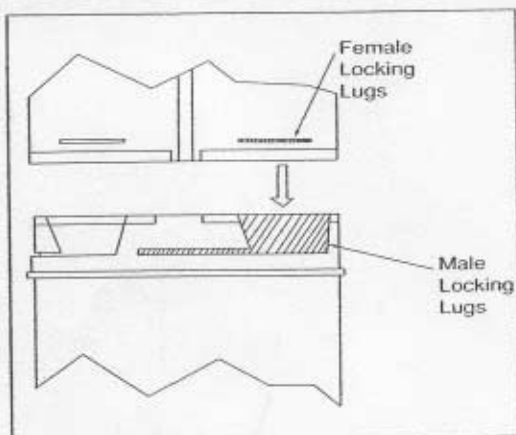

Figure 6
(1) Four indentations, located on the female ends of pipes and fittings, are designed to slide straight onto the male ends of adjacent pipes and fittings, by orienting the four pipe indentations so they match and slide into the four entry slots on the male ends. (Figure 6.) Push the pipe sections completely together, then twist-lock one section clockwise approximately one-quarter turn, until the two sections are fully locked. The female locking lugs will not be visible from the outside, on the Black Pipe or fittings. They may be located by examining the inside of the female ends.
- (1) Four indentations, located on the female ends of pipes and fittings, are designed to slide straight onto the male ends of adjacent pipes and fittings, by orienting the four pipe indentations so they match and slide into the four entry slots on the male ends. (See Figure 6 on page 12.) Push the pipe sections completely together, then twist-lock one section clockwise approximately one-quarter turn, until the two sections are fully locked. The female locking lugs will not be visible from the outside, on the Black Pipe or fittings. They may be located by examining the inside of the female ends.
- (2) Horizontal runs of vent must be supported every three feet. Wall Straps are available for this purpose.